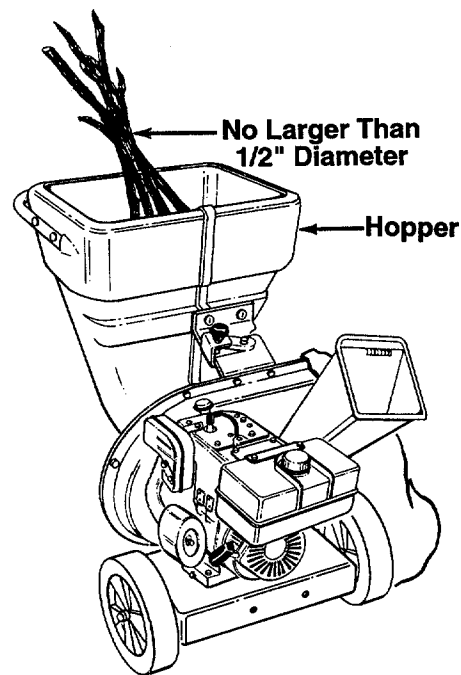

FIGURE 5.
1. Leaves and small branches up to 1/2" diameter can be fed into the hopper when it is in the raised position. See figure 5. If it becomes necessary to push material into the shredder, use a small diameter stick—NOT YOUR HANDS. The stick cannot exceed 1/2" in diameter so it will be ground up if it gets into the impeller assembly.